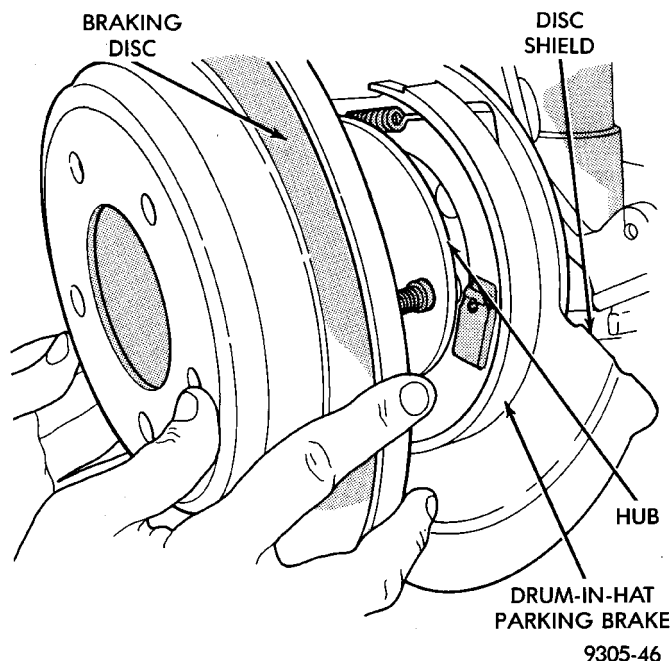
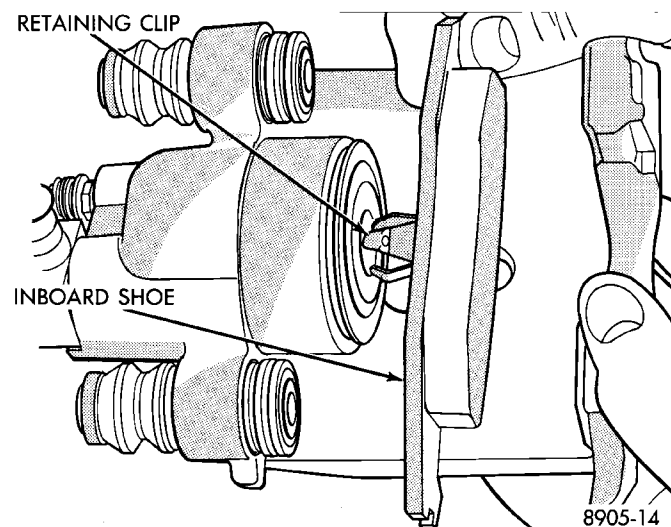

Fig. 75 Rear Brake Rotor
Fig. 77 Removing Inboard Brake Shoe
(6) Remove rear rotor from hub/bearing assembly (Fig. 75). Then inspect drum-in-hat parking brake shoes and parking brake braking surface on rotor for any signs of excessive wear or damage. Replace parking brake shoes if required.
(8) Pull inboard brake pad away from caliper piston, until retaining clip is free from cavity in piston. (Fig. 77).
(1) Completely retract the caliper piston back into the piston bore of the caliper assembly. This is required for caliper installation when new brake pad assemblies are installed on caliper.
(2) Lubricate both adapter abutments with a liberal amount of Mopar® Multipurpose Lubricant, or equivalent.
(3) Install rear rotor on the hub making sure it is squarely seated on face of hub (Fig. 75).
(4) Remove protective paper from noise suppression gasket on both inner and outer brake pad assemblies (if equipped).
(5) Install new inboard brake shoe assembly into caliper piston by firmly pressing into piston bore with thumbs (Fig. 77). **Be sure inboard brake shoe assembly is positioned squarely against face of caliper piston.**